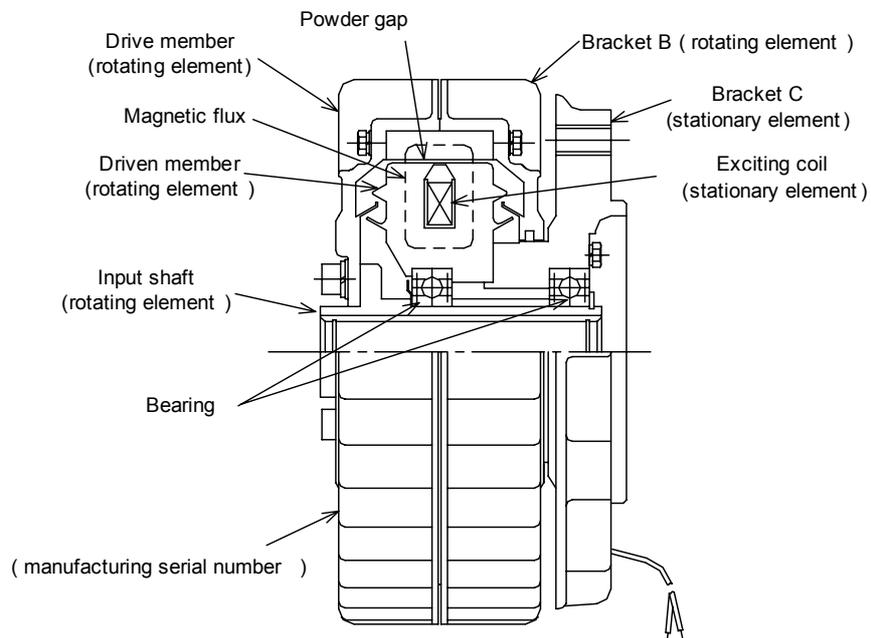

Fig. 2 Structural diagrams of ZA-Y powder brakes
- The brake has the driven member and exciting coil unit integrated into one body as shown in Fig.2.